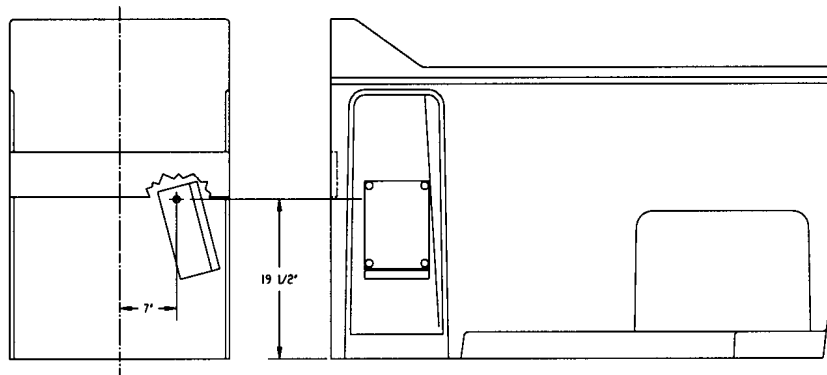

Fig 9
The Aqua-Air tub (rated at 13.3 amps at 120 Volts) a 15 amp GFCI breaker will work. See Fig 9 for location of field wiring connection point.
29. Run flexible conduit and the proper size wires, from the facility's junction box to the connecting point of the tubs electrical enclosure. See figure 9.